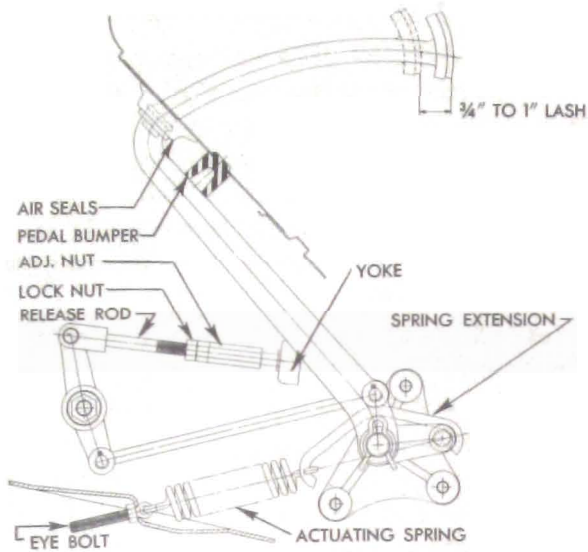

Figure 4-7—Clutch Pedal Adjustment
An over-center type actuating spring holds the pedal firmly against a rubber bumper on the toe board when clutch is in engaged position, and helps to reduce pedal pressure as it goes over center when clutch is disengaged. The actuating spring is attached to the frame by an eye bolt and to a short arm of clutch pedal by an extension which straddles the pivot point of pedal. The spring and extension are positioned so that the pedal is pulled upward in the free position and pulled downward when depressed to disengage the clutch. See figure 4-7.
First make certain that clutch pedal is adjusted for specified lash (fig. 4-7) and that pedal is not binding. One type of clutch slippage is sometimes wrongly diagnosed as due to a weak clutch spring. This slippage occurs during gear shifting and full engagement of the clutch is not obtainable until the engine speed is reduced. After full engagement is obtained no further slippage occurs during acceleration or under full load. This condition is usually due to the clutch driven plate hub sticking on the splines of the transmission main drive gear. Correction can be made by removing the clutch and thoroughly cleaning splines of driven plate and main drive gear then applying a light coating of Lubriplate. Make sure that release lever pins are not binding, and that pressure plate driving lugs are not binding in clutch cover.
1. Make certain that the actuating spring pulls clutch pedal firmly against pedal bumper on toe board when pedal is released. If pedal is not pulled against bumper, check pedal and linkage for binding or lack of lubrication; also check condition of actuating spring and make sure that spring eye bolt is fully tightened. See figure 4-7.
3. If adjustment is necessary, loosen lock nut and turn adjusting nut on clutch release rod as required to secure  $\frac{3}{4}$ " lash, then tighten lock nut securely. See figure 4-7.